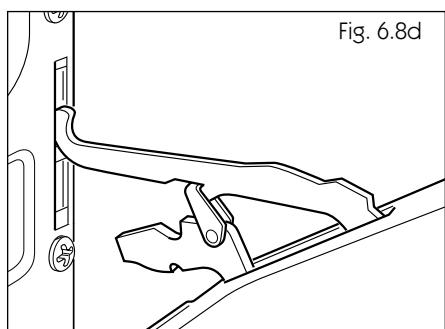

Fig. 6.8d
- Now pull the oven door forwards off the appliance. Release both hinge sections from the slots (fig. 6.8d).